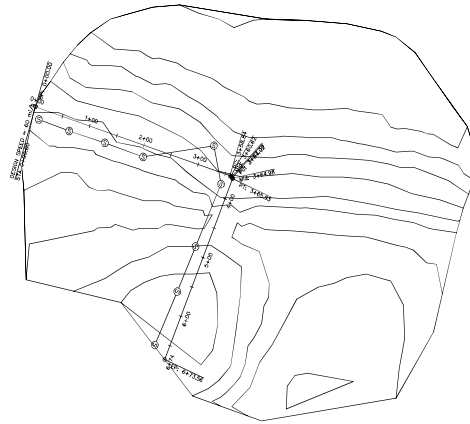

Figure 13-28 The surface with the sewer reference network
4. Select the **none** option from the **Structure label style** drop-down list if it is not selected by default and then choose the **OK** button to exit the dialog box. On doing so, the sewer reference network is displayed in the drawing, as shown in Figure 13-28. Ignore the warning message displayed in the **PANORAMA** window.